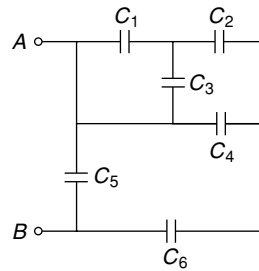

Fig. 1.47 Capacitance configuration of Ex. 1.44
1.44 Find the equivalent capacitance between A and B in Fig. 1.47. Assume the capacitances are equal to each other and having a value of $2 \mu\text{F}$ each.
We can reduce the given circuit as shown in Fig. 1.47(a).